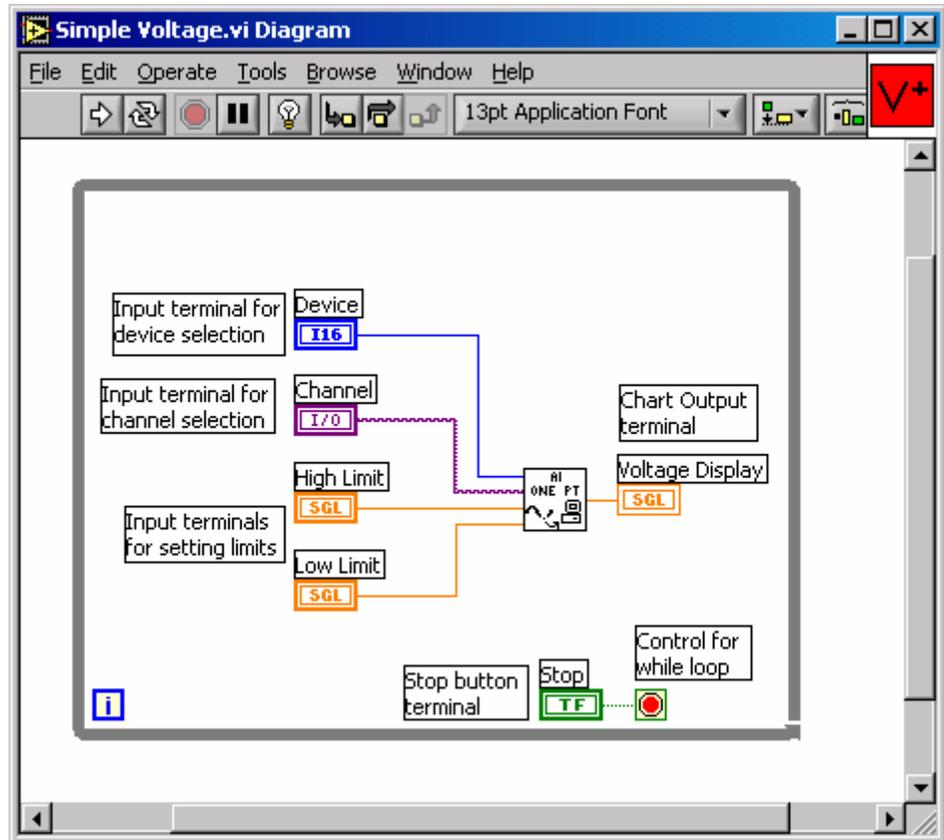
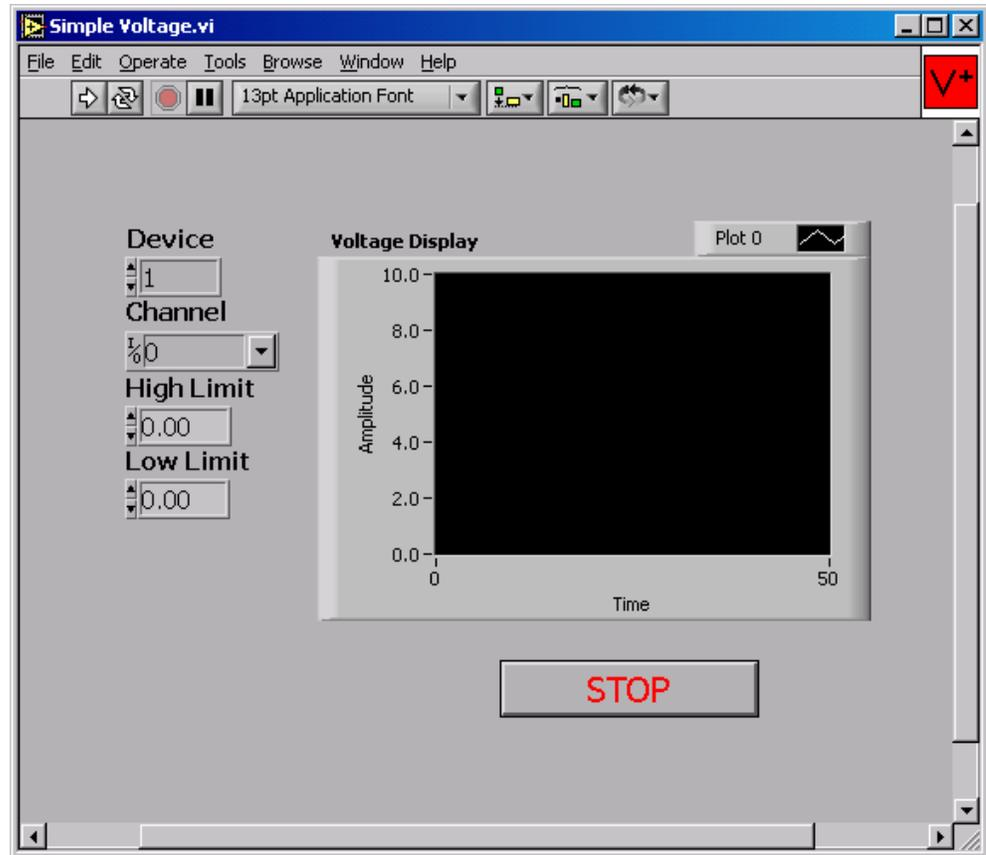

Figure 4. LabVIEW Program to Read a Voltage from a Single Channel
Figure 5. Front Panel of a Program that Reads and Displays a Voltage Waveform from Device 1 and Channel 0.
Figure 4 shows a more complicated program. This program reads a voltage and adds it to a chart. The gray box around the program is a While Loop. The program elements inside the While Loop will execute repeatedly as long as the input to the condition terminal is false. That is, as long as the variable **Stop** is false. **Stop** is the button on the front panel shown in Figure 5. When the user presses the button, **Stop** becomes true, and the While Loop stops executing. When the While Loop in this example stops, there are no other program elements to execute, so the entire program stops running.
In the center of the While Loop, you see the “work” being done in the loop. The block labeled **AI ONE PT**, which is actually **AI Sample Channel.vi**, performs the operation of getting a voltage from the channel specified by **Channel** and the data acquisition device specified by **Device**. **AI ONE PT** reads one voltage reading from the specified channel on the specified data acquisition device. The output of **AI ONE PT** is a voltage. Each time the While Loop runs, **AI ONE PT** outputs one voltage value to the terminal labeled **Voltage Display**. The terminal labeled **Voltage Display** is the connection point for the chart in the front panel shown in Figure 5. The update of the chart is such that every time a new number is input to it, the new number is plotted along with all the previous numbers.
The **AI ONE PT** block in Figure 4 performs the data acquisition procedure. National Instruments has completed a major portion of the programming by writing software that drives the DAQ system. That means that all you need to do is include the **AI ONE PT** block in the program to take voltage measurements with your DAQ device.
1. Now you will modify your program from Part 1 so it looks like Figures 4 and 5. First, save the program under a different and still meaningful name, such as **Graphing Digital Voltmeter.vi**.